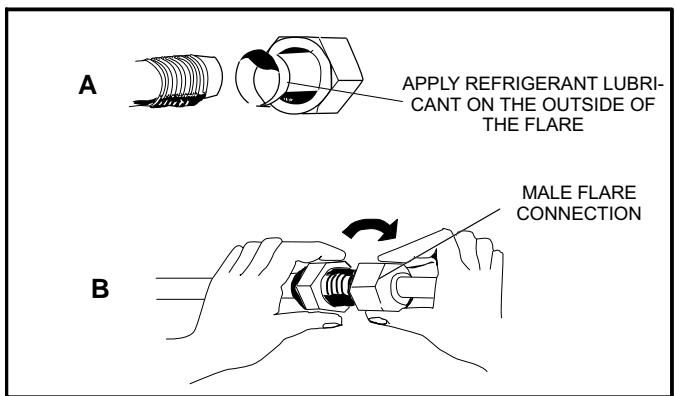

Figure 5. Making Connections at Indoor Unit (Male to Female Connection)
- 5 - Apply recommended HFC-410A refrigerant lubricant to the outside of the field-provided flared line sets (figure 5 -- A).
- 6 - Align the union tube and flared refrigerant lines with each other, then tighten the flare nuts lightly at first to obtain a smooth match (figure 5 -- B).